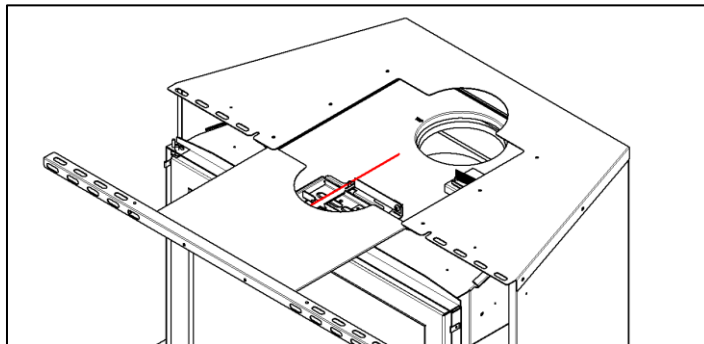

Figure 3-6: Circulating Chamber Top Removable Bracket
- Align the liner adaptor with the top opening of the circulating chamber. Note that the top/front portion of the circulating chamber can slide off to allow for better access to the liner adaptor - loosen wing nuts on front bracket (Figure 3-6).